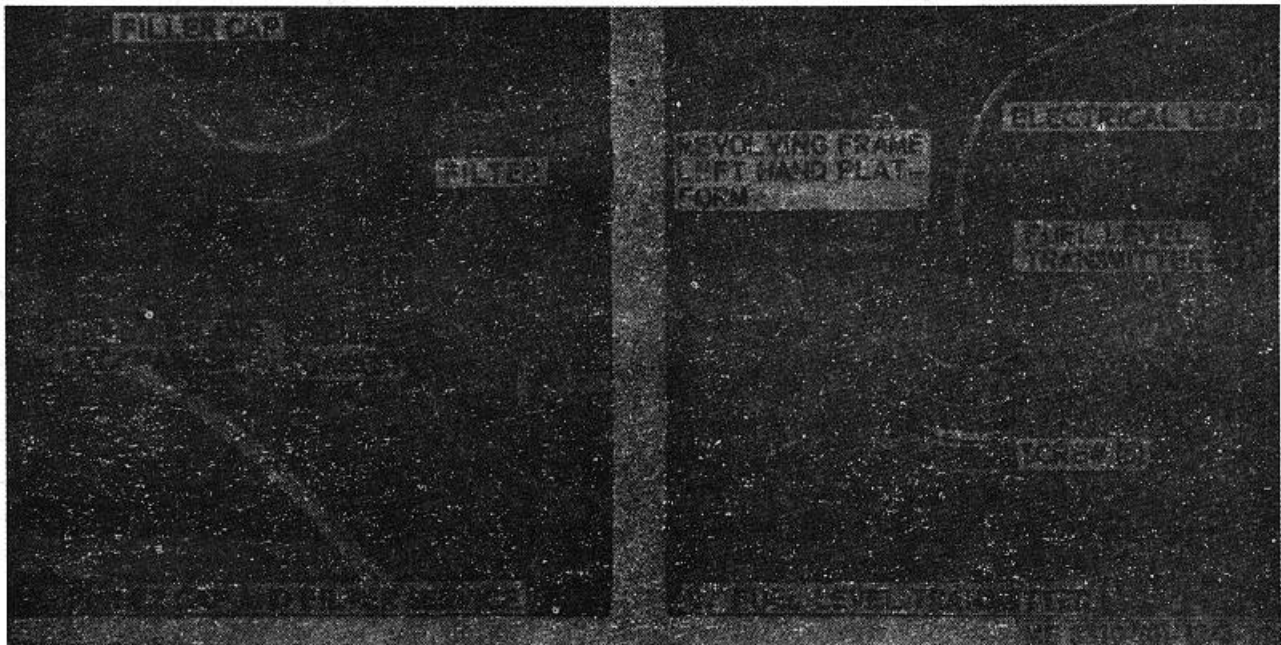

Figure 3-13. Filler cap and filter service.
a. Remove filler cap (fig. 3-13).